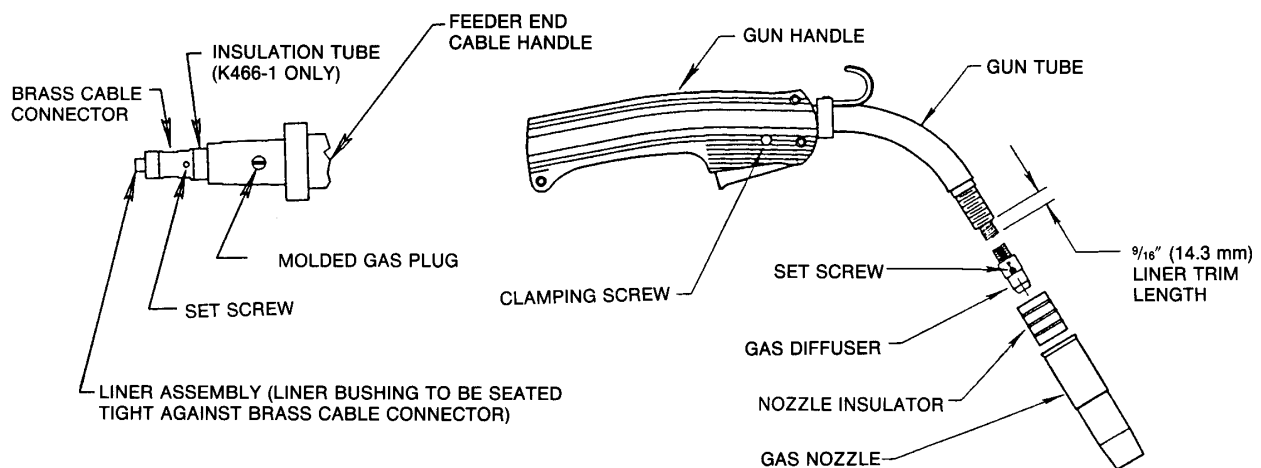

Figure B.1
- a. Remove brass cable connector and insulation tube (see Figure B.1) from the kit. Slide the insulation tube onto the connector from the threaded end and screw it onto the feeder end of the gun cable. Tighten the connection with the wrench provided.
- a. Remove brass cable connector (see Figure B.1) from the kit and screw it onto the feeder end of the gun cable. Tighten the connection with the wrench provided.
- Remove brass cable connector (see Figure B.1) from the kit and screw it onto the feeder end of the gun cable. Tighten the connection with the wrench provided.
- Remove brass cable connector (see Figure B.1) from the connector kit and screw it onto the feeder end of the gun cable. Tighten the connection with the wrench provided.
- e. Be sure the cable is straight and then trim the liner to the length shown in Figure B.1 (a gauge is included on the wrench provided with the connection kit for gauging the cut-off length on 300 and 400 amp gun tubes). Remove any burrs from the end of the liner.